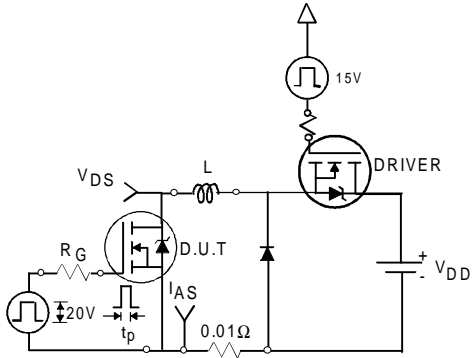

Fig 12a. Unclamped Inductive Test Circuit
- ③ $I_{SD} \leq 82A, di/dt \leq 310A/\mu s, V_{DD} \leq V_{(BR)DSS}, T_J \leq 175^\circ\text{C}$
- ④ Pulse width $\leq 400\mu s$; duty cycle $\leq 2\%$.
- ⑤ $C_{oss\ eff.}$ is a fixed capacitance that gives the same charging time as C_{oss} while V_{DS} is rising from 0 to 80% V_{DSS} .
- ⑥ Calculated continuous current based on maximum allowable junction temperature. Package limitation current is 75A.
- ⑦ Limited by T_{Jmax} , see Fig.12a, 12b, 15, 16 for typical repetitive avalanche performance.
3. Equation below based on circuit and waveforms shown in Figures 12a, 12b.